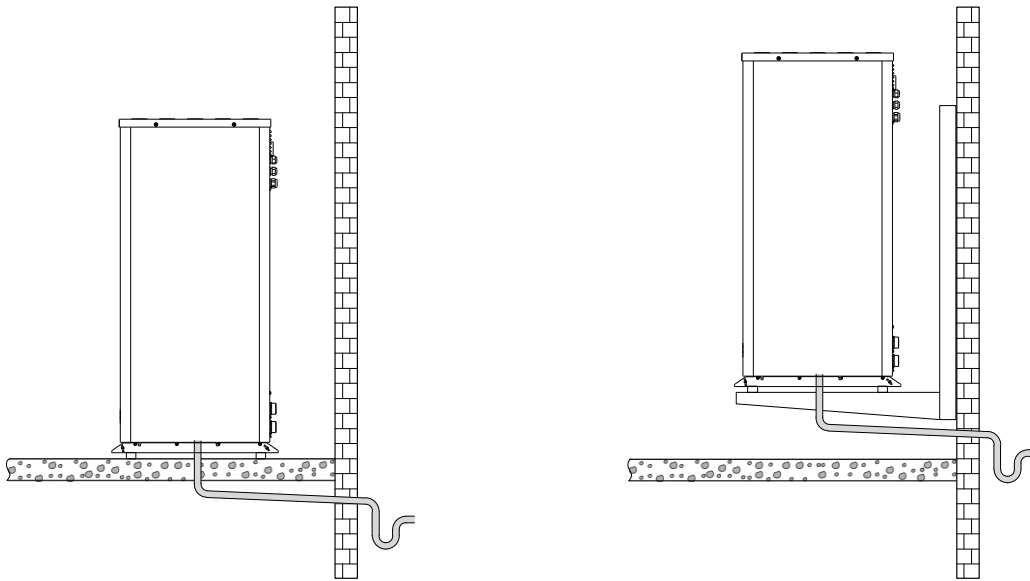

Figure 2.6. Support systems with the tray connected to the drain.
- If a siphon has to be installed, place it where it is not affected by freezing temperatures, as shown in figures 2.6 and 2.7.